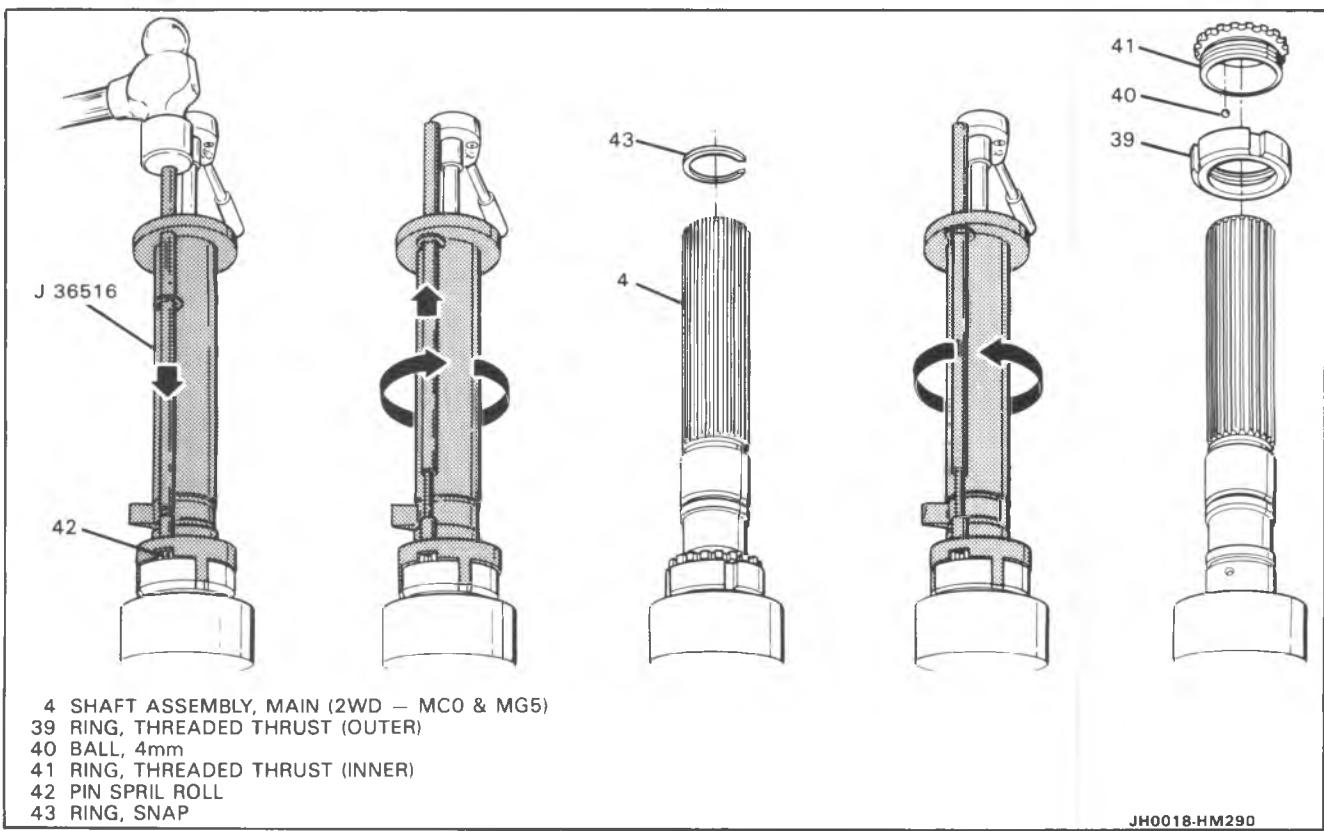
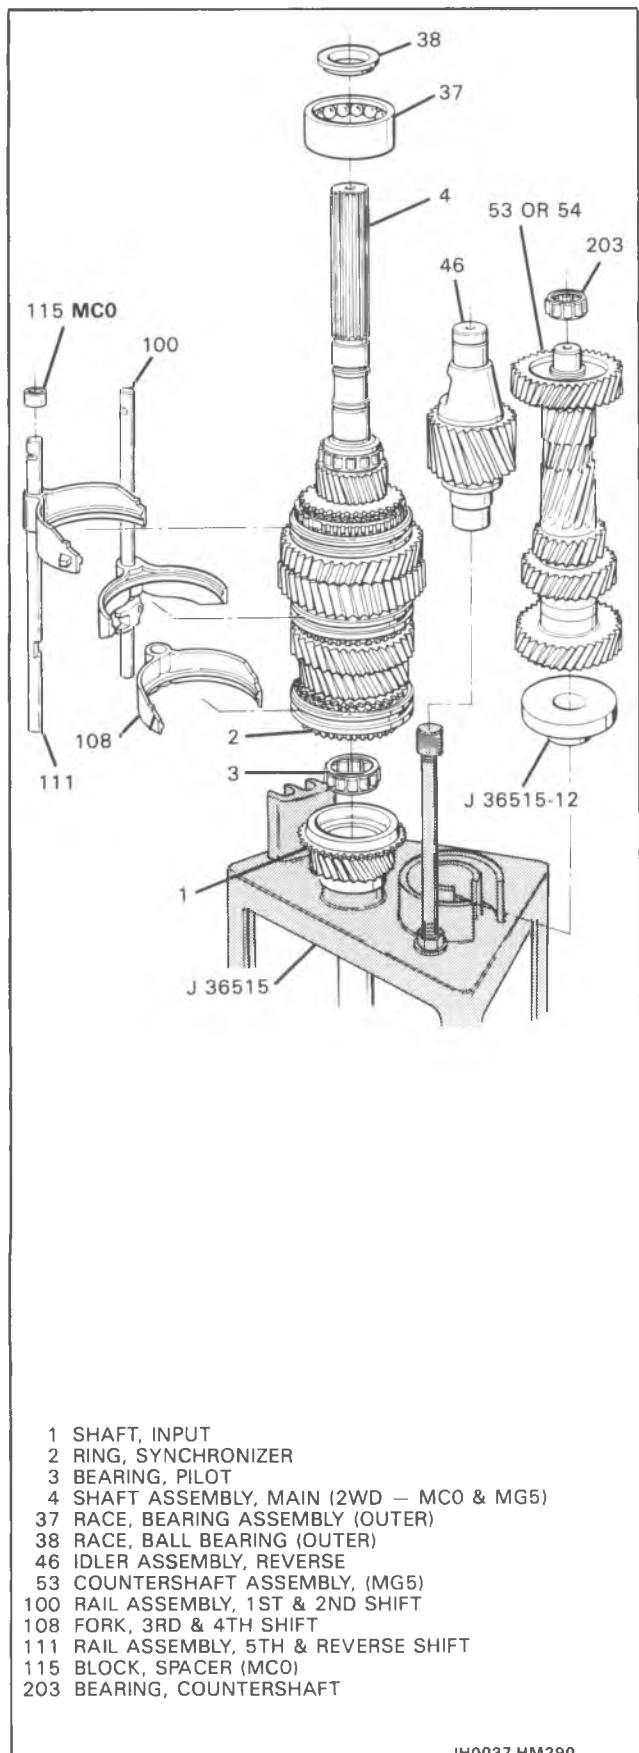

Figure 20 Removing Threaded 2WD Thrust Rings
Figure 21 Removing Gears and Shift Rails
- 6. Washer (44) and snap ring (43).
- 7. Spiral roll Pin (42) using J 36516 (Figure 20).
- 8. Snap ring (43).
- 9. Threaded thrust ring (inner) (41), ball (40) and threaded thrust ring (outer) (39).
- Turn J 36516 clockwise till both threaded thrust rings (39) and (41) are completely apart.
- 10. Reverse idler gear assembly (46) and countershaft (4-speed) (54) or (5-speed) (53) (Figure 21).